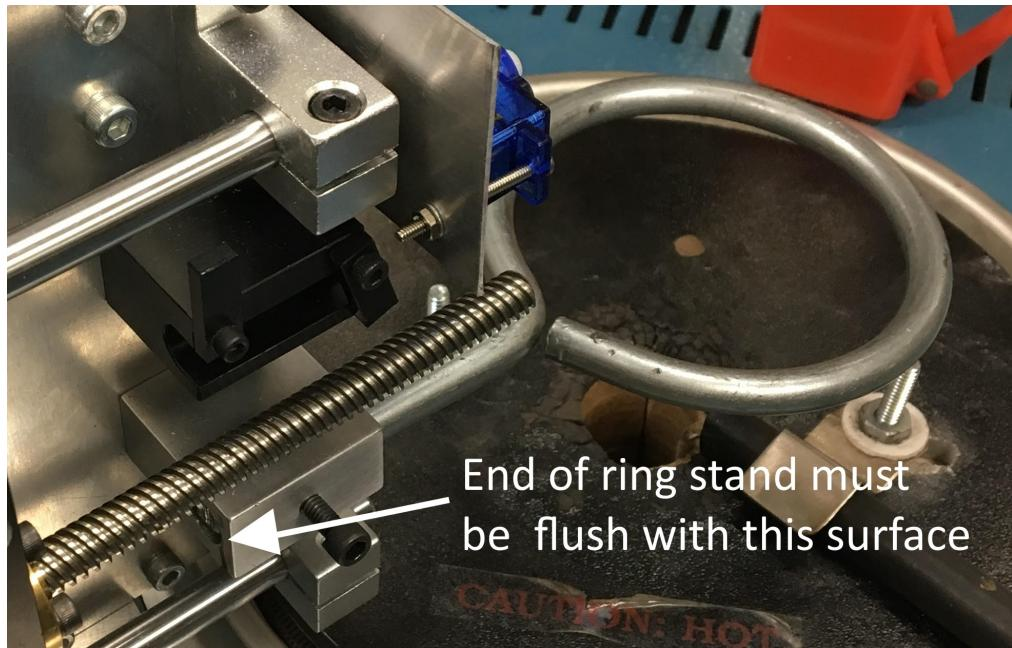

Figure 4: Place the ring stand so its end is flush with the inside surface of the mount block
- Note that the end of the ring stand rod must be nearly flush with the inside surface of the ring stand mount block (See Figure 4)